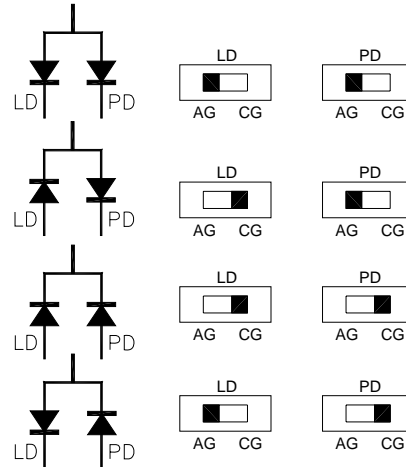

Figure 2 - Polarity Switch Settings
- Determine the laser pin configuration from the laser diode manufacturer's data sheets and set the LD (Laser Diode) and PD (Photodiode) switches located on the top of the unit according to Fig. 2.